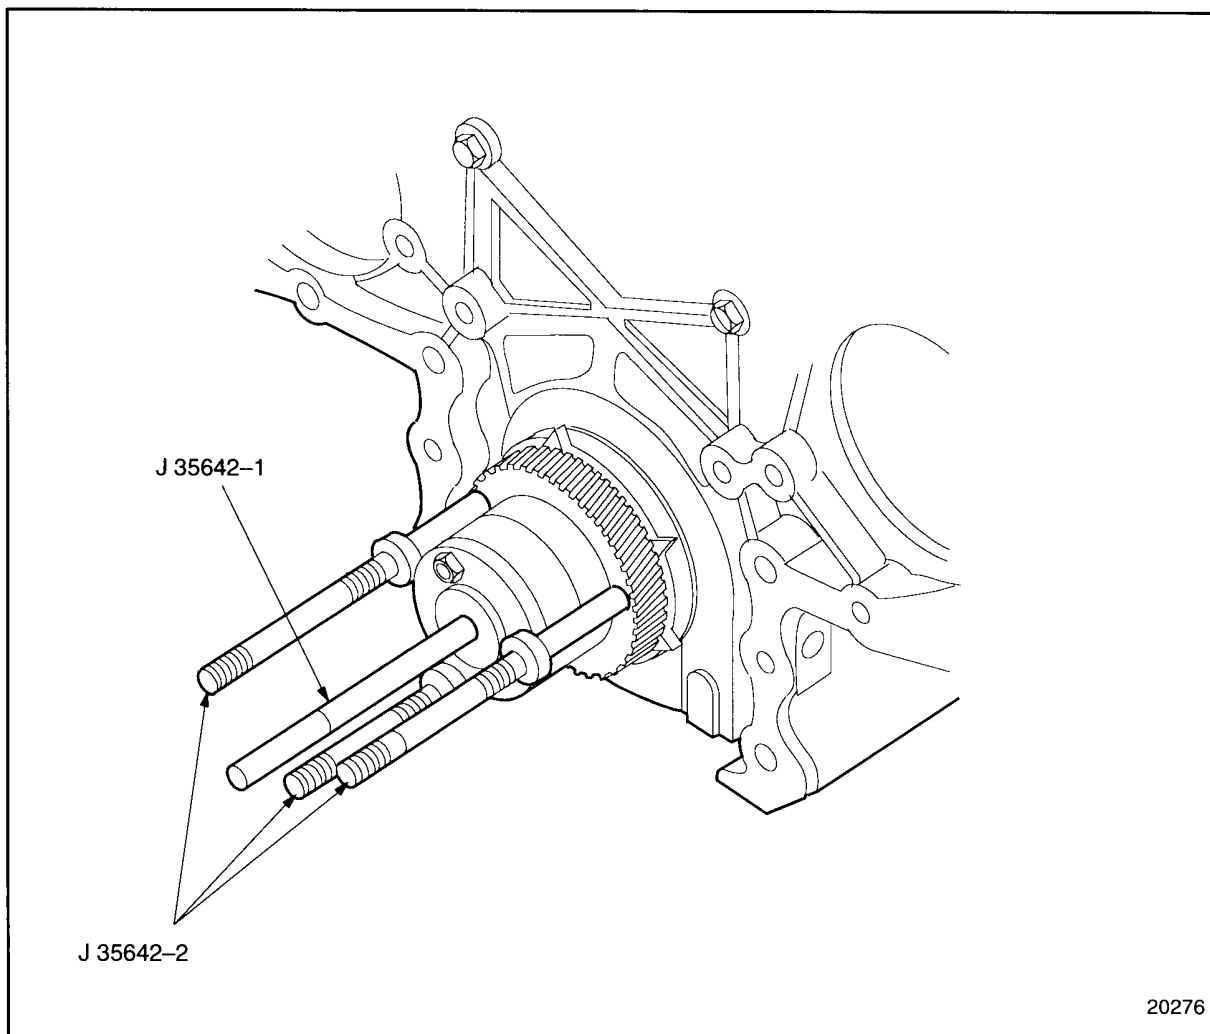

Figure 1-365 Puller Leg Installation
6. Install the three legs of timing gear puller, J 35642-2 part of J 35642, part of tool kit J 35642, to the threaded holes in the crankshaft timing gear. Tighten the three legs, but do not torque. See Figure 1-365.